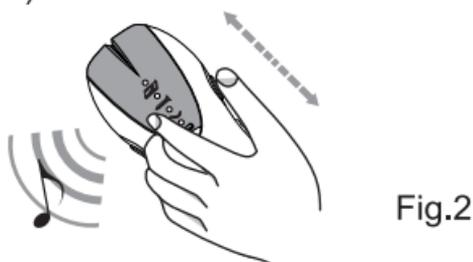

Fig.2
1. Pick up the detector, turn M/V switch to ON, the POWER LED will light up, then turn sensitivity adjustor to METAL indicator LED will light and buzzer will sound. Then slowly turn back sensitivity adjustor through to indicator LED exactly not light on. in this mode the detector sensitivity is max. you can turn the adjustor to adjust detect sensitivity.(fig.2)